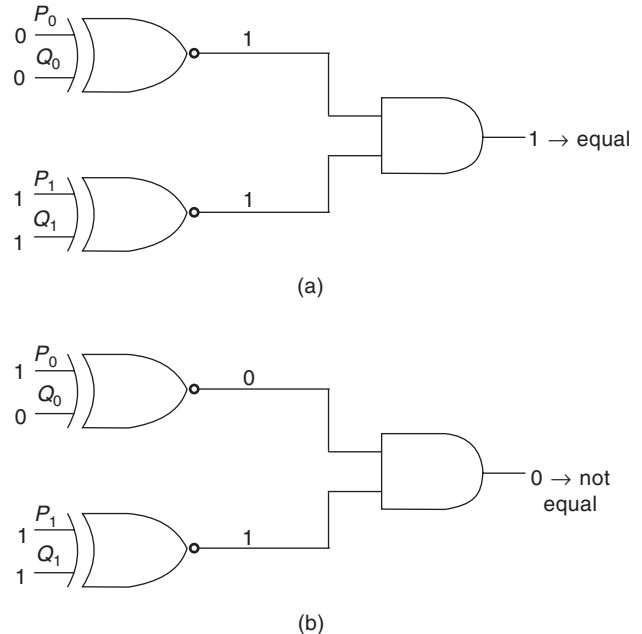

Fig. 10.37
- (a) The output is 1 for inputs 10 and 10, as shown in Fig. 10.37(a).
- (b) The output is 0 for inputs 11 and 10, as shown in Fig. 10.37(b).